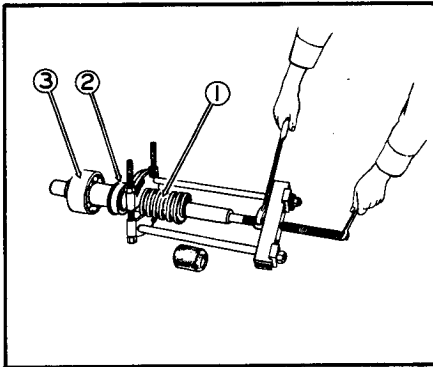

Figure 43 Pulling Mast Worm
Pull worm (1), Figure 43, and remove the bearings (2) and (3).